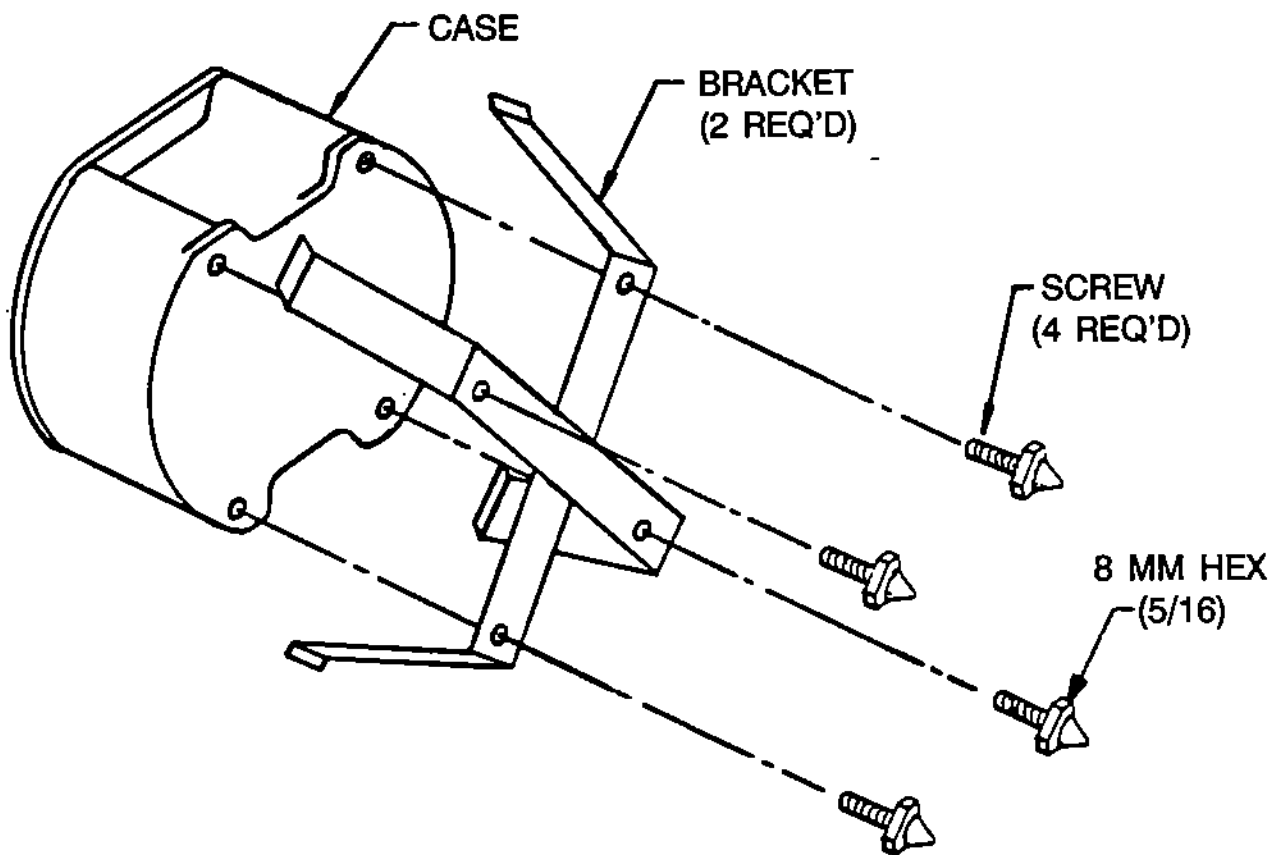

Figure 3-5 Spring Retainer for Explosion-Proof Housing
- c. Spring retainer for explosion-proof housings that have internal diameters of 76.4 to 88.9 mm (3.0 to 3.5 in.). (See Figure 3-5.)